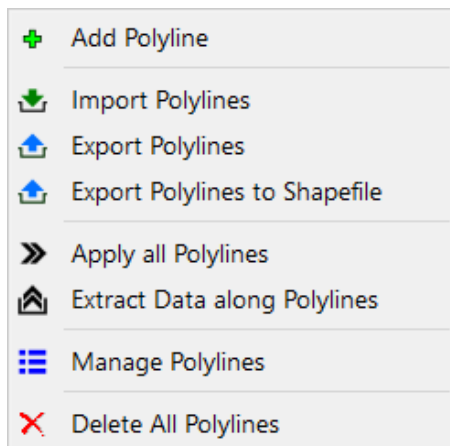

Figure 16. The Polylines Menu
To assist in editing polylines, the Polyline Tool has two popup menus—the Polylines menu (Figure 16) and Polyline Data menu (Figure 17). The Polylines menu contains functions related to all polylines and can be opened by right-clicking on the Map Viewer. The Polyline Data menu contains functions related to an existing polyline and can be opened by right-clicking on a vertex of that polyline. The functions of these menus are given below.
1. Polylines menu (Figure 16)